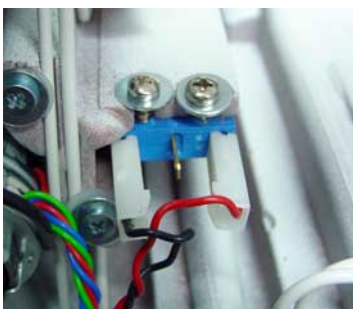

Fig. 3-57 C3 docking mechanism micro switch
3. Pull off the connectors from the micro switch (see Fig. 3-57).
4. Open the mounting screws (see Fig. 3-57) and take out the micro switch.